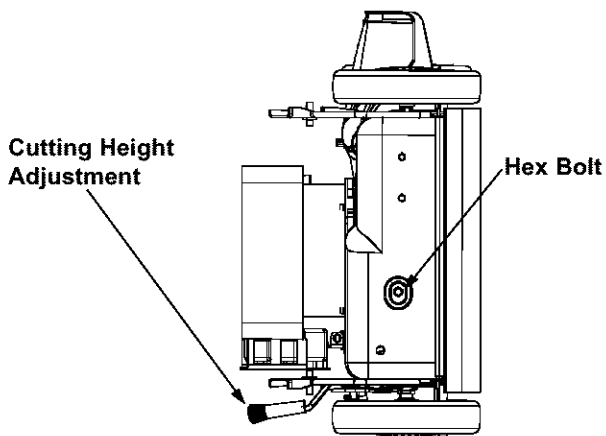

Figure 15
- Remove the hex bolt from the rear of unit holding the transmission to the mower housing. See Figure 15.